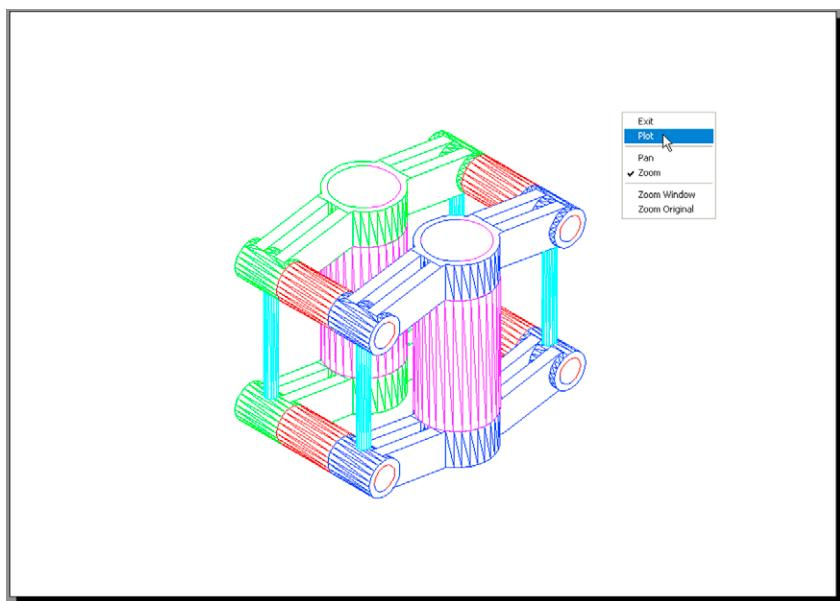

Fig. 19.12 Third example – Printing/Plotting
Third example – Printing/Plotting (Fig. 19.12)
4. If satisfied with the preview (Fig. 19.12), right-click and click on **Plot** in the menu which appears. The drawing plots.
Polygonal viewports (Fig. 19.12)